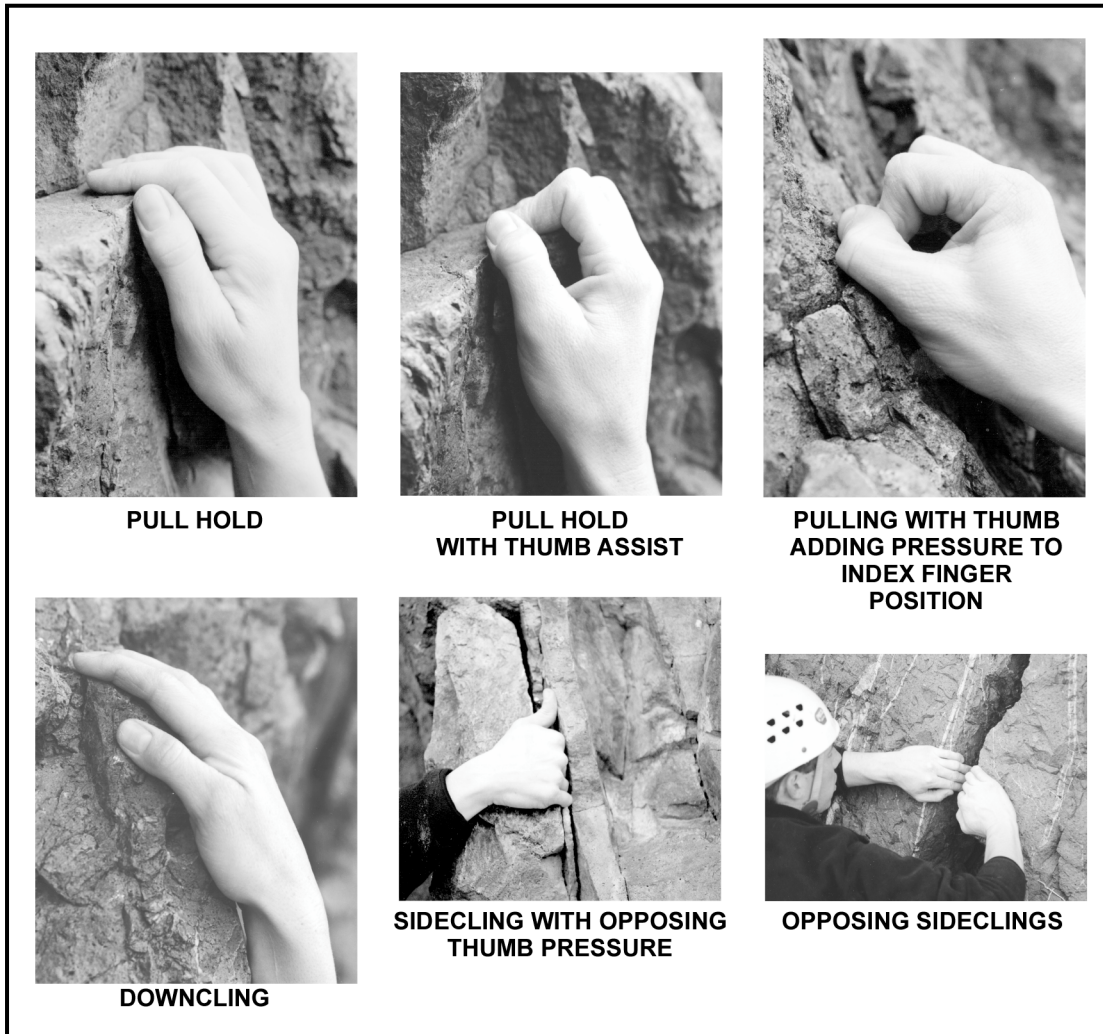

Figure 6-9. Examples of pull holds.
(2) **Pull Holds.** Pull holds, also called “cling holds,” which are grasped and pulled upon, are probably the most widely used holds in climbing. Grip plays more of a role in a pull hold, and, therefore, it normally feels more secure to the climber than a push hold. Because of this increased feeling of security, pull holds are often overworked. These are the holds the climber has a tendency to hang from. Most pull holds do not require great strength, just good technique. Avoid the “death grip” syndrome by climbing with the feet. (Figure 6-9, page 6-16, shows examples of pull holds.)